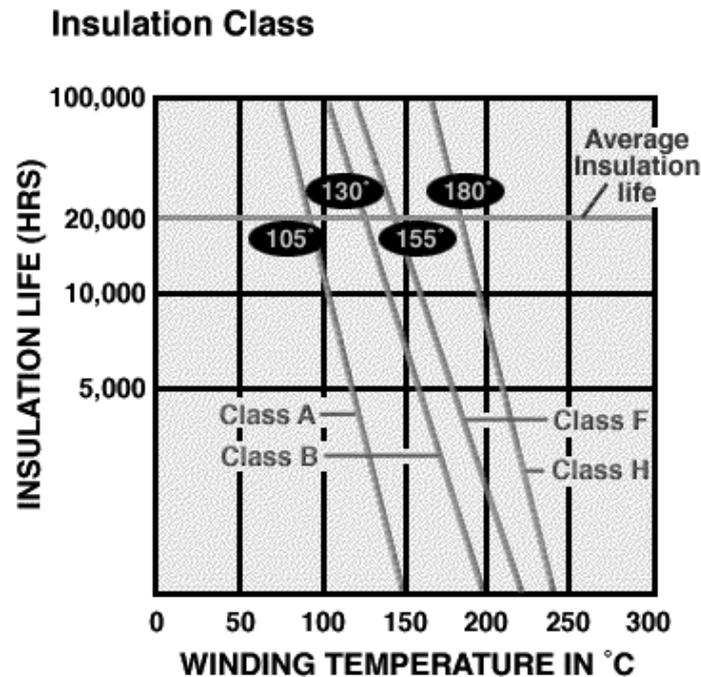

Fig.1.1
**Classification according to temperature** : The insulating materials are classified mainly based on the thermal limit. The performance of the insulation depends on its operating temperature. The higher the temperature, the higher will be the rate of its chemical degrading, and hence the lower will be its useful life as shown in fig.1.1. If a reasonably long life of insulation is expected, its operating temperature must be maintained low. Therefore, it is necessary to determine the limits of temperature for the insulation, which will ensure safe operation over its expected life.